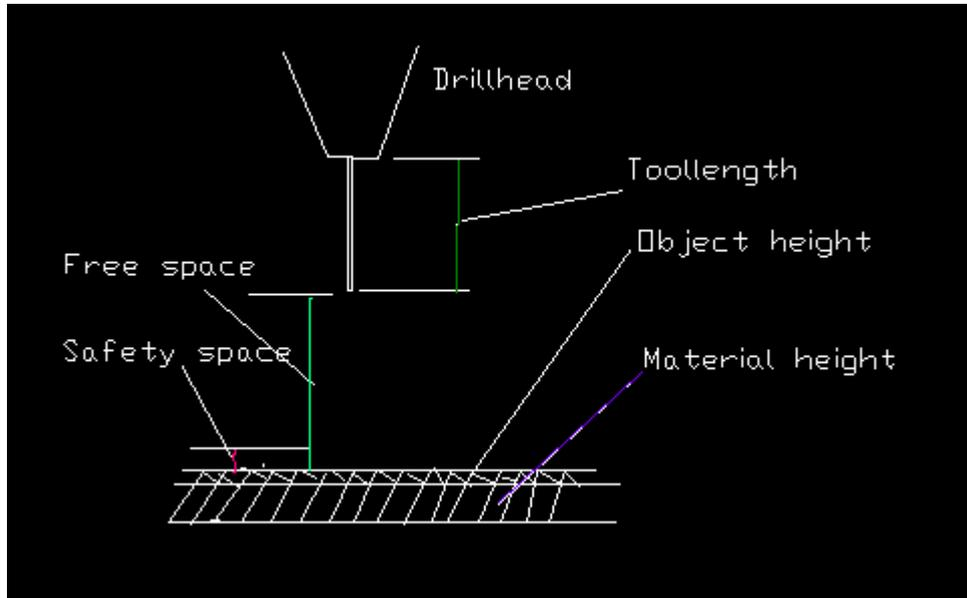

Fig. 3.1.7 Space dimensions (tooldrill-0623)
- 9. Fig. 3.1.7 Space dimensions.